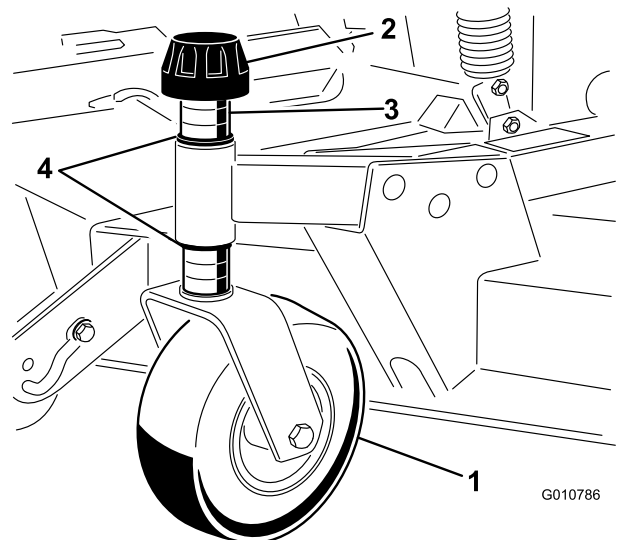

Figure 8
1. Remove the tensioning cap from the spindle shaft and slide the spindle out of the front castor arm (Figure 8).